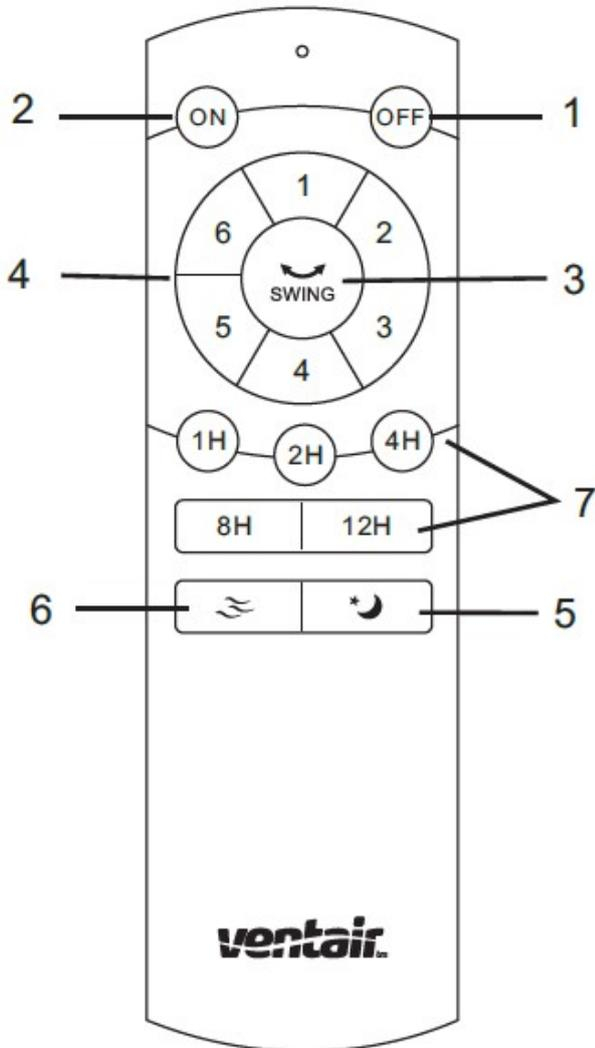

**Figure 3**
5. Loosen the screw at the grille ring. Place the security lock downwards, insert the front grille into corresponding position of the grille ring. Centre the Front Grille by aligning the central logo so that it is horizontal and parallel to the floor. Then tighten the screw of the security lock. (Figure 3).